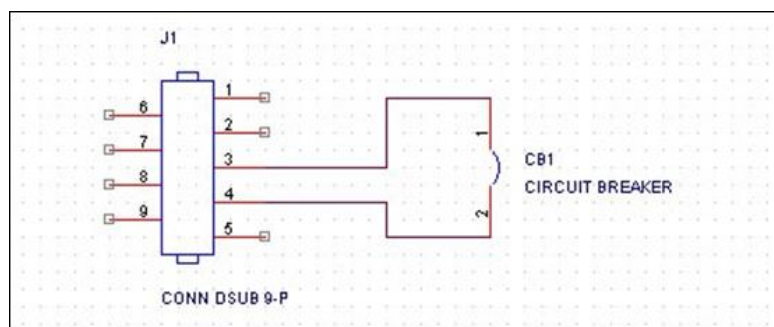

Figure 6: How to connect an external trigger switch
- Connect a switch from pin 4 on CAN channel 1 to ground, which can be found on pin 3 on the same connector. See Figure 6 on Page 12.